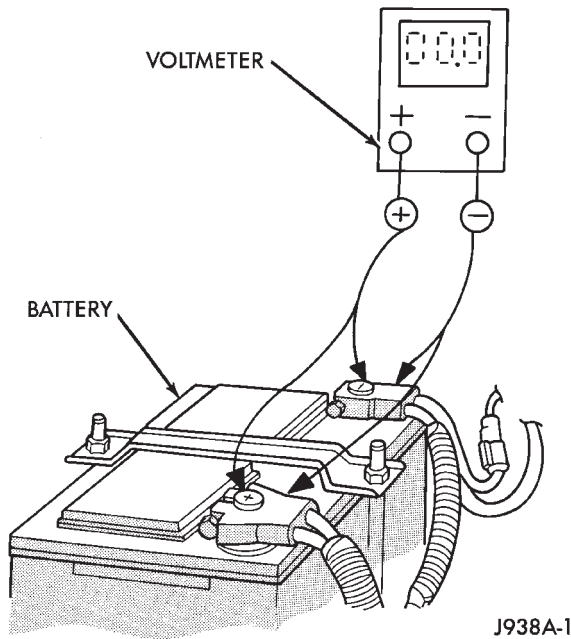

Fig. 3 Test Battery Connection Resistance
(1) Connect positive lead of the voltmeter to the battery negative post. Connect negative lead to the battery negative cable clamp (Fig. 3). Rotate and hold the ignition switch (key) in the START position. Observe the voltmeter. If voltage is detected, correct poor contact between the cable clamp and post.
(2) Connect positive lead of voltmeter to the battery positive post. Connect negative lead to the battery cable positive clamp (Fig. 3). Rotate and hold the ignition switch (key) in the START position. Observe the voltmeter. If voltage is detected, correct poor contact between the cable clamp and post.